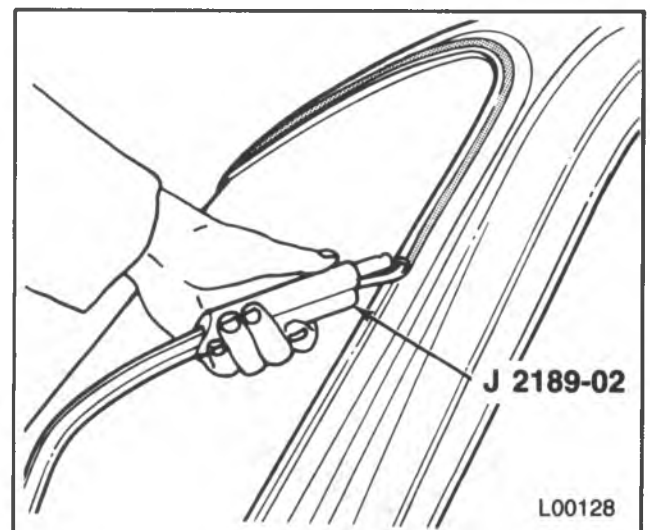

Figure 4 — Installing the Reveal Molding
10. Reveal molding to the weatherstrip using J 2189-02 (figure 4).
- Push the end of the molding into the groove of the weatherstrip at the center of the bottom edge (figure 4).